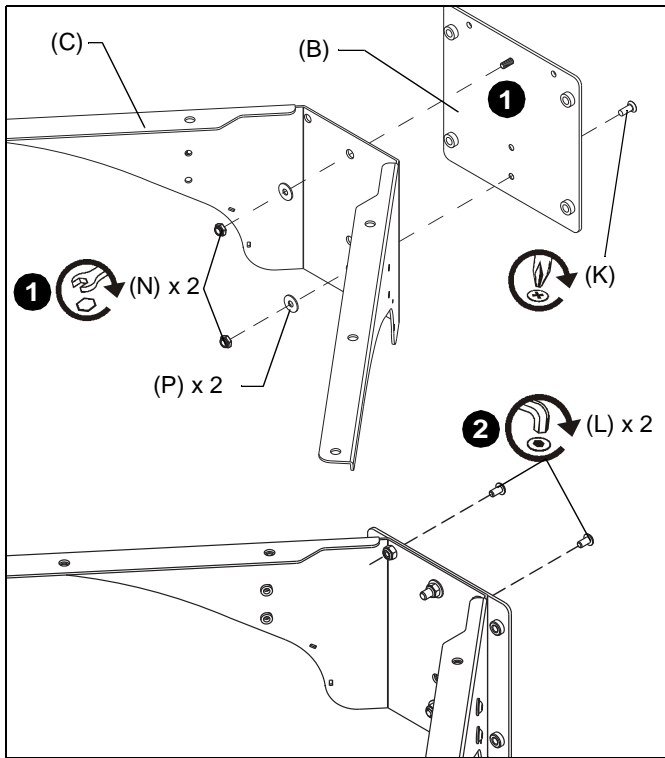

Figure 1
1. Attach table bracket (C) to attachment plate (B) by inserting stud fastener on attachment plate through upper hole in table bracket, and use one 10-24 x 1/2" Phillips undercut machine screw (K), two #10 flat washers (P), and two 10-24 nylon lock nuts (N) to complete fastening. (See Figure 1)
2. Make final attachment of table bracket and attachment plate using two 10-24 x 3/8" button head cap screws (L). (See Figure 1)